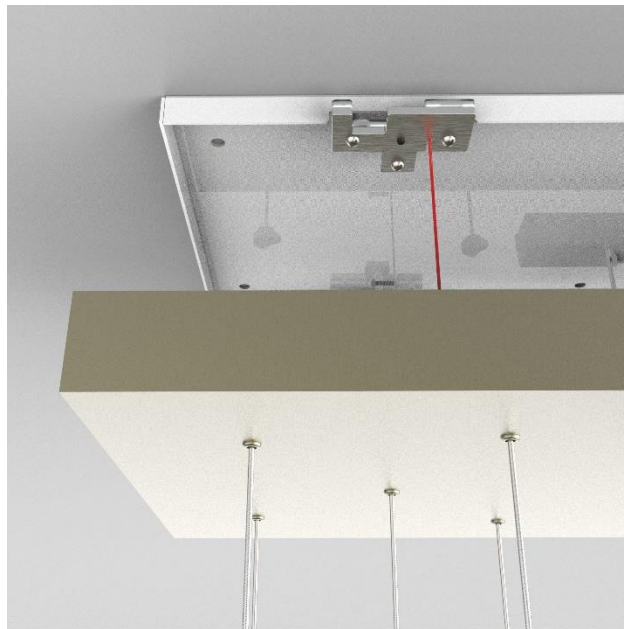

Figure 2
- With mounting plate secured to ceiling, raise rectangular canopy and hook the four corner cables into slots in the aluminum brackets. (Figure 2)